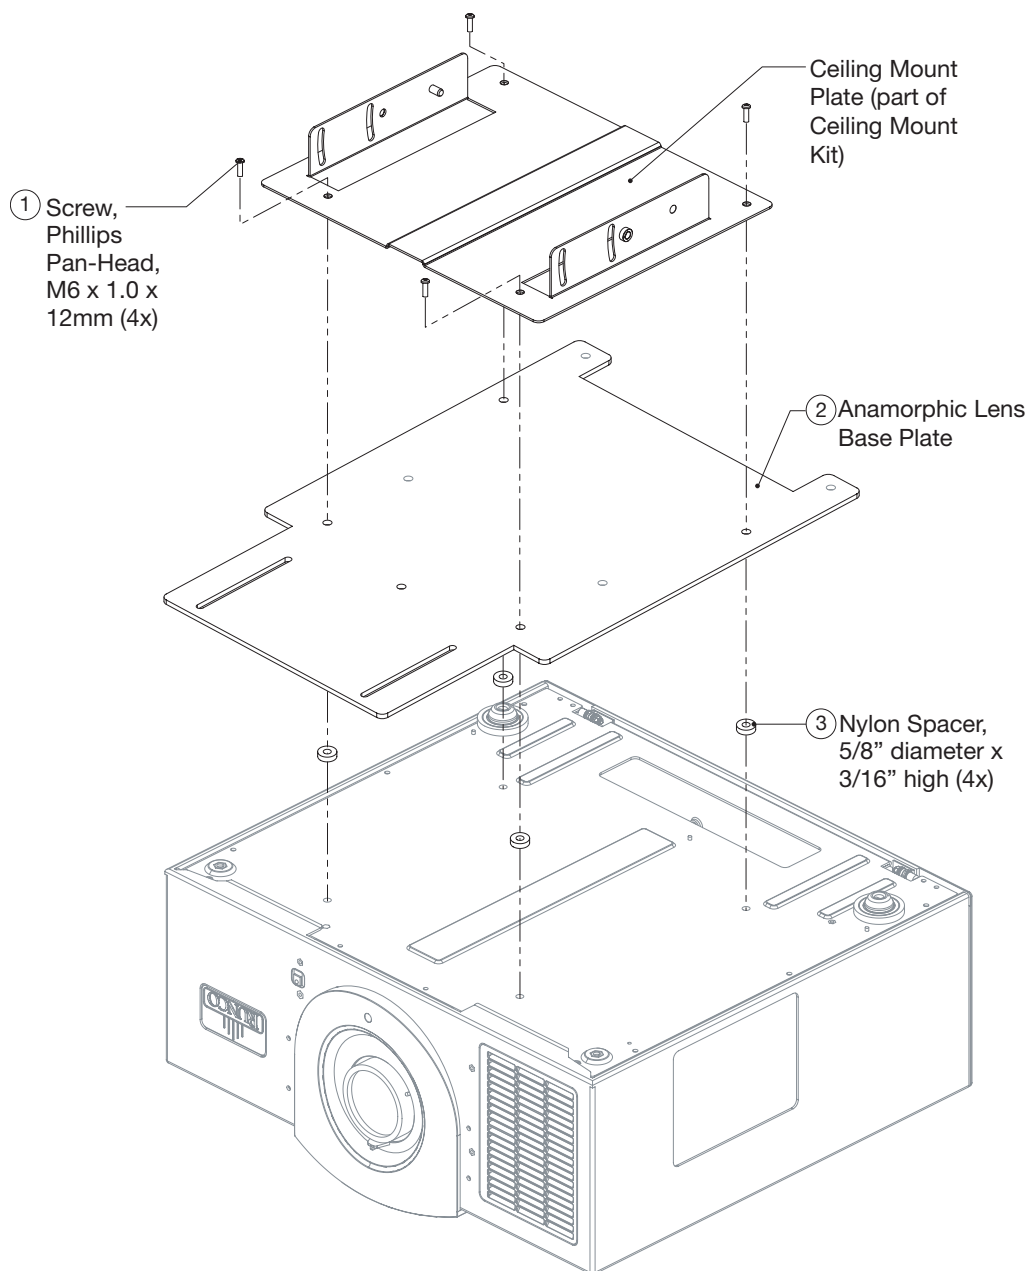
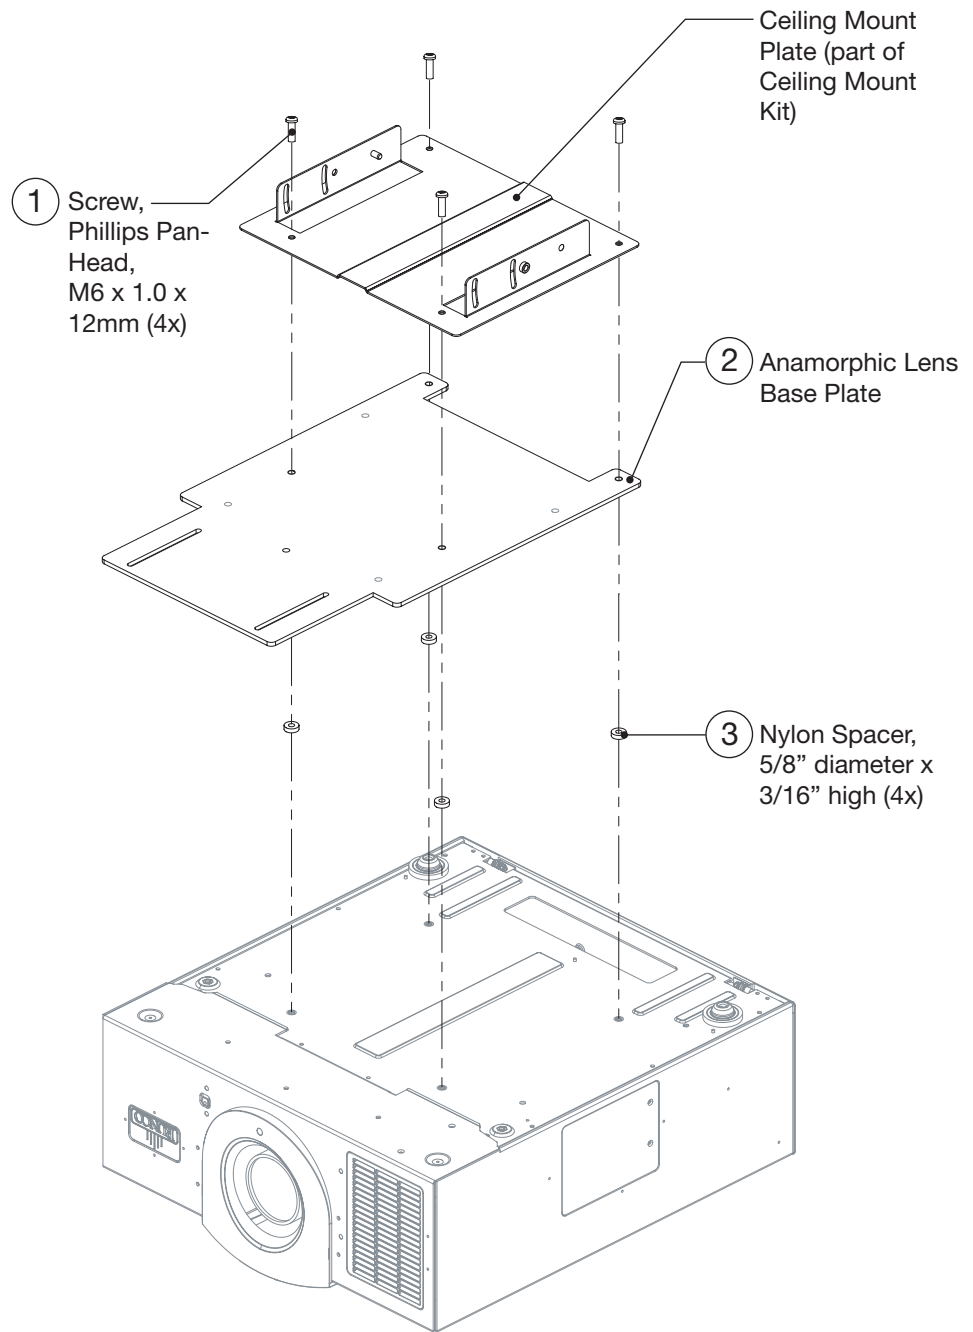

Figure 3-11. VX-3000i/CineWide or VX-3000d/CineWide with Rainier II/McKinley (Cylindrical) Lens Base Plate and Ceiling Mounting Plate - Exploded View
Figure 3-12. VX-3000 Ultra/CineWide with Rainier II/McKinley (Cylindrical) Lens Base Plate and Ceiling Mounting Plate - Exploded View
Figure 3-11 shows the cylindrical (Rainier II/McKinley) lens base plate assembly for a VX-3000i/CineWide or VX-3000d/CineWide.
Figure 3-12 shows the VX-3000 Ultra/CineWide cylindrical (Rainier II/McKinley) lens base plate assembly.
3. Place the CineWide base plate (item #2) on the bottom of the projector. For a standard VX-3000i/CineWide or VX-3000d/CineWide, position the plate as shown in Figure 3-11; for a VX-3000 Ultra/CineWide, position the plate as shown in Figure 3-12.